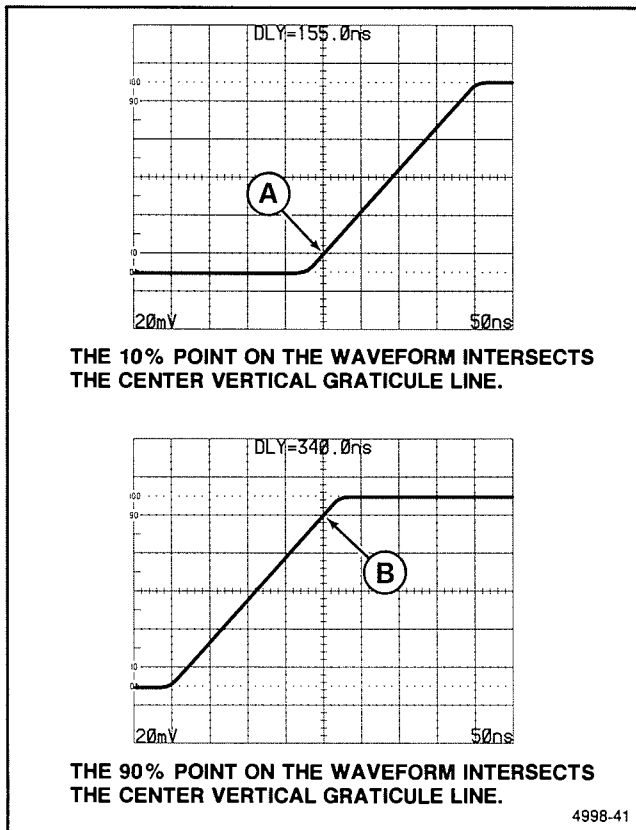

Figure 6-28. Rise time, differential time method.
3. Vertically position the trace so that the zero reference of the waveform touches the 0% graticule line and the top of the waveform touches the 100% graticule line (see Figure 6-28).
6. Select the B HORIZONTAL MODE. Adjust the B DELAY TIME POSITION control until the display intersects the 10% point at the center vertical graticule line (see Figure 6-28, Point A).
8. Adjust the B DELAY TIME POSITION control until the display intersects the 90% point at the center vertical graticule line (see Figure 6-28, Point B).